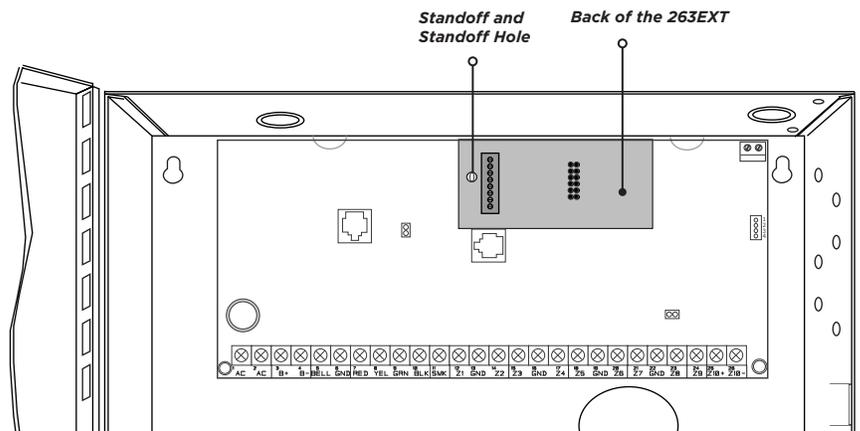

Figure 3: 263EXT Panel Module on an XT Series Control Panel
3. Align the 263EXT standoff hole with the standoff already placed in the panel. Secure the 263EXT on the 12-pin cell module header. See Figures 3 and 4.